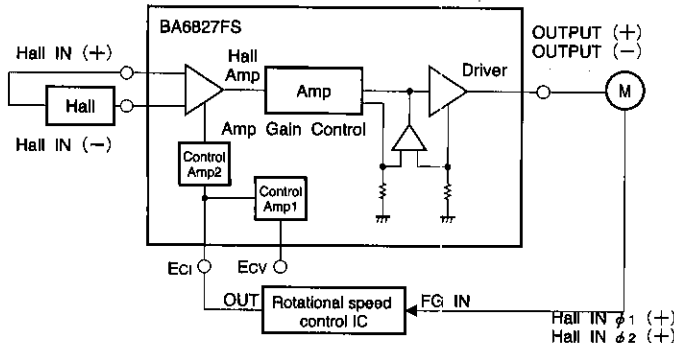

Fig.6
(1) The signal from the Hall device is amplified by the Hall amplifier and then supplied to the driver circuit. The driver gain, which is constant, is regulated by changing the Hall amplifier gain with the E_{ci} input current or the E_{cv} input voltage (E_{ci} and E_{cv} are output current control pins). The motor rotational speed is sensed by the FG, and the output from which is F/V-converted and supplied to the E_{ci} pin or F/V-converted and supplied to the E_{cv} pin as a feedback signal, so that a constant rotational speed is maintained as follows (Fig. 6) :